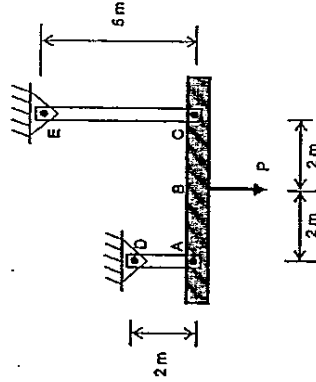

Figure Q3(a)
- (b) Two aluminum bars are bonded together to form a layered beam. The cross section of the beam is shown in Figure Q3(b). Knowing that the vertical shear in the beam is 10 kN, determine